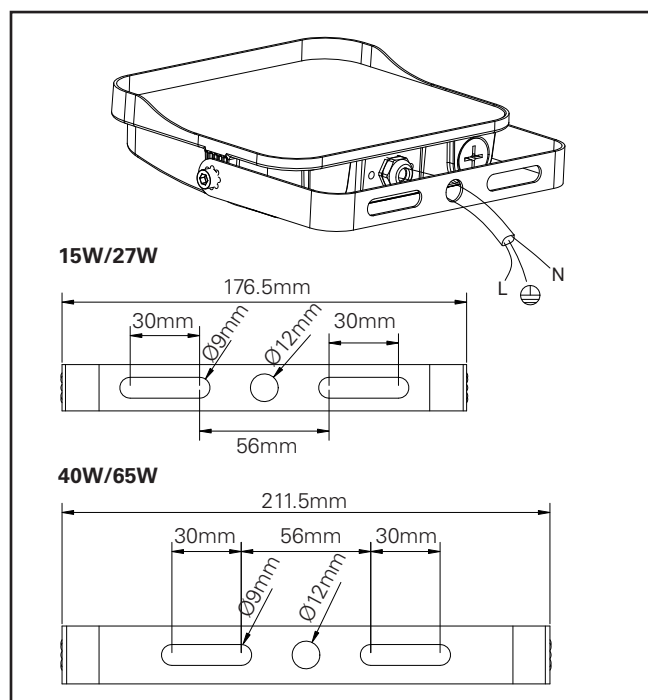

Figure 2
1. Mount fixture onto surface using the hole pattern provided on the yoke bracket (figure 2).